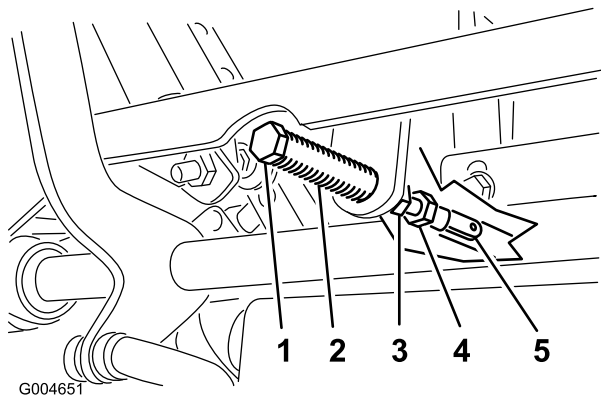

Figure 49
5. Pull the lever back until the clevis pin (on an arm above the pivot shaft) contacts the end of the slot (just beginning to put pressure on the spring) as shown in Figure 49.
7. If adjustment is needed, loosen the nut and jam nut against the yoke (Figure 49).
8. Applying slight rearward pressure on the motion-control lever, turn the head of the adjustment bolt in the appropriate direction until the control lever is centered in the NEUTRAL-LOCK position (Figure 49).
9. Tighten the nut and jam nut (Figure 49).
10. Tighten the jam nuts at the ball joints (Figure 49).